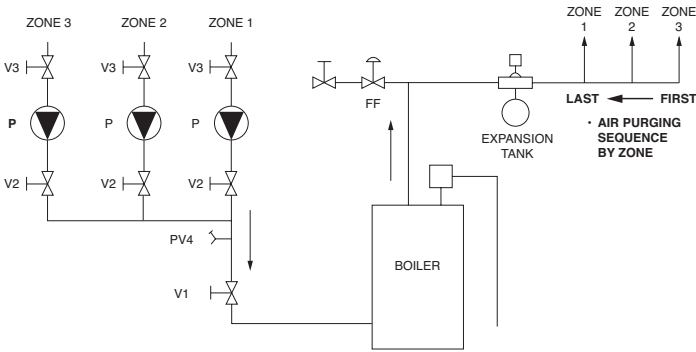

**Figure 2:**
- 1. Location:** The circulator can be installed on the supply or return side of the boiler but for best system performance, it should always pump away from the expansion tank. See piping diagrams in Figure 2 and Figure 3.